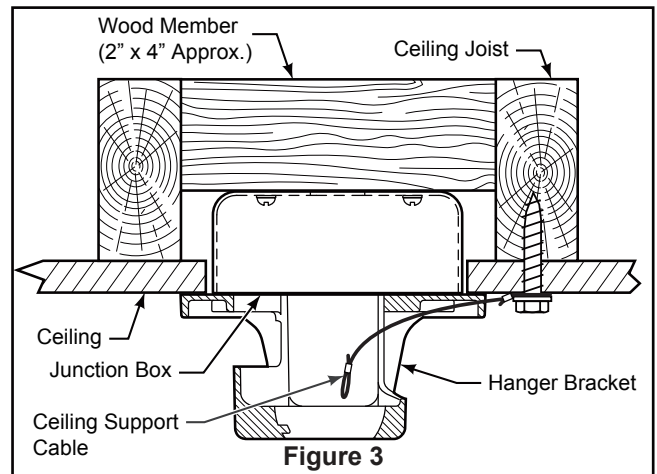

Figure 3
1. Using the 3/8" x 2" lag bolt and flat washer, attach safety cable to ceiling joist or wood structural member. The lag bolt will pass through the flat washer, safety cable loop, and into the building structure (Figure 3). You will first drill a 1/4" pilot hole into the building structure to prevent splitting or cracking.
2. Securely attach the hanger bracket to ceiling junction box acceptable for ceiling fan support. **NOTE:** Ceiling support cable cannot be secured to junction box only, it must be directly secured to ceiling joist or structural member using the 3/8" x 2" lag bolt and flat washer. (Figure 3)